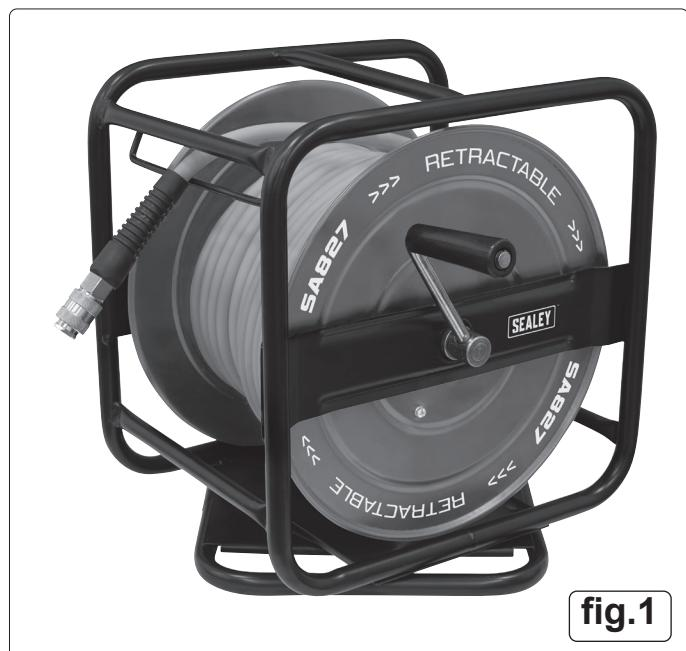

fig.1
- 4.2.1. Assemble as in fig.1.**